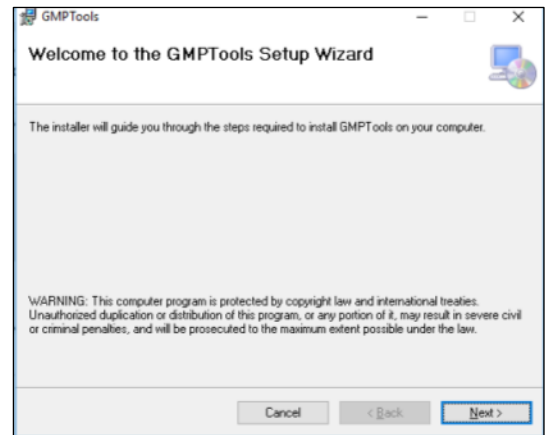

Fig. 2.5
- Accept the permissions requested by the computer and the installation wizard screen will then be displayed (Fig. 2.5).